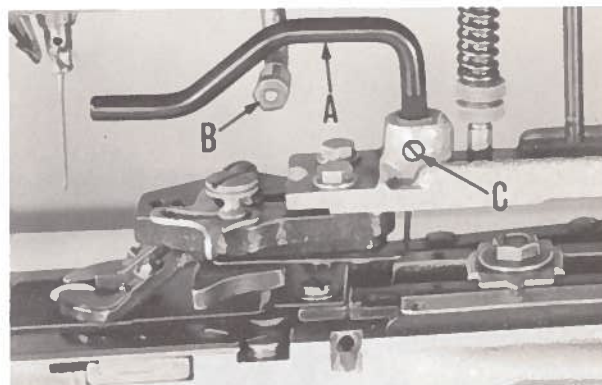

Fig. 10
Take machine out of stop position, and turn pulley in operating direction until button clamp is in its furthest position to the rear. At this point, there must be clearance between the button clamp lifting rod (A, Fig. 10) and the button clamp lifting roller (B). Adjustment is made by loosening screw (C) and moving rod (A) up. This will affect the height of the button clamp in relation to the feed plate as previously described, but for the normal setting of $\frac{1}{2}$ inch, no interference between lifting rod and roller will occur.